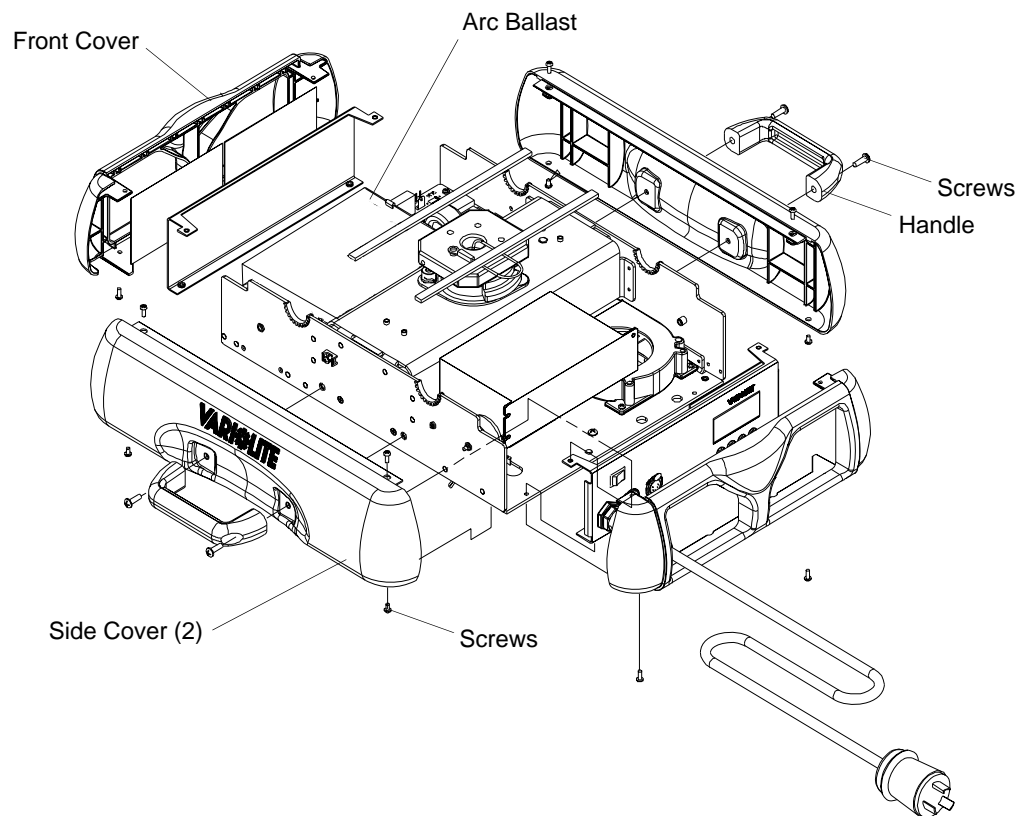

Figure 2-21: Accessing Ballast Module
- Step 4. At enclosure, remove eight 6-32 x 3/8" PPZ screws and both side covers. Figure 2-21.